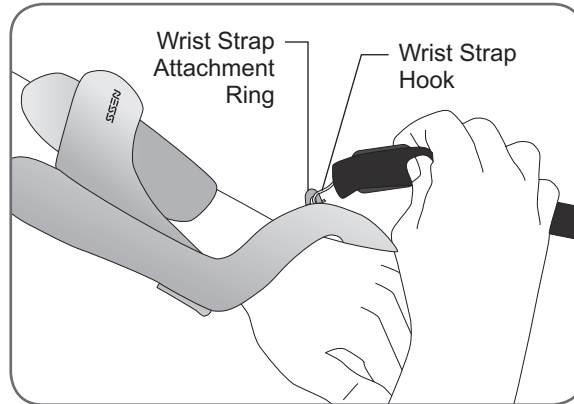

Figure 8-11: Attaching the Wrist Strap Hook
6. Attach the hook on the Orthosis Wrist Strap to the Wrist Strap Attachment Ring. See Figure 8-11.